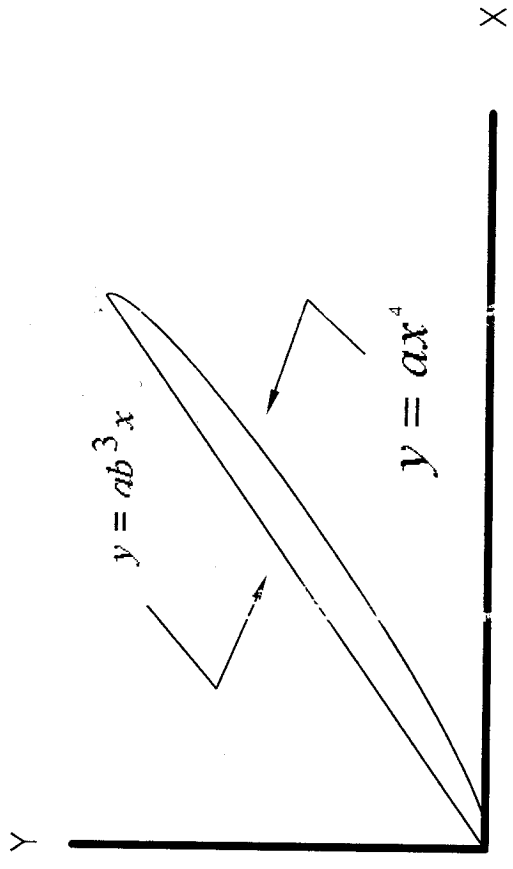

Fig 4
4. The figure (*Fig 4*) displays a plate of constant thickness and uniform material. The plate is bounded by the straight line from above and a 4th order parabola from below. Consider the constants "a" and "b", the thickness of the plate and the density of the material as given. **Derive the expression for the x-coordinate, \bar{x} , of the centre of mass for this body as function of the constants "a" and "b".**